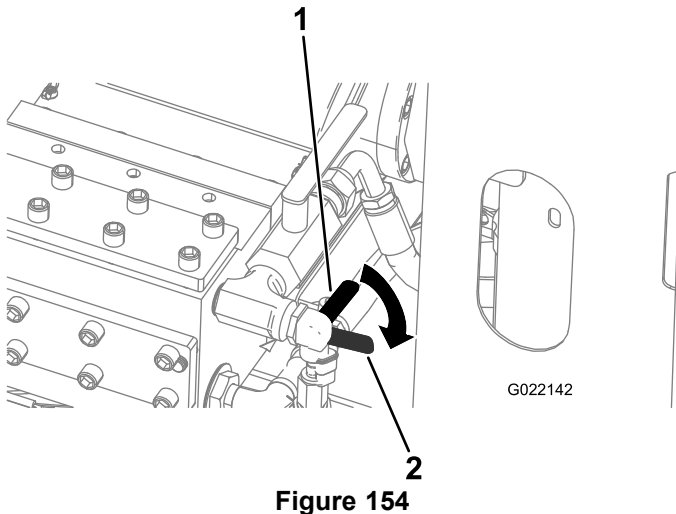

Figure 154
A. Open the antifreeze valve on the front side of the drilling-fluid pump (the lower valve) as shown in Figure 154.
6. Close the antifreeze valve (Figure 154).